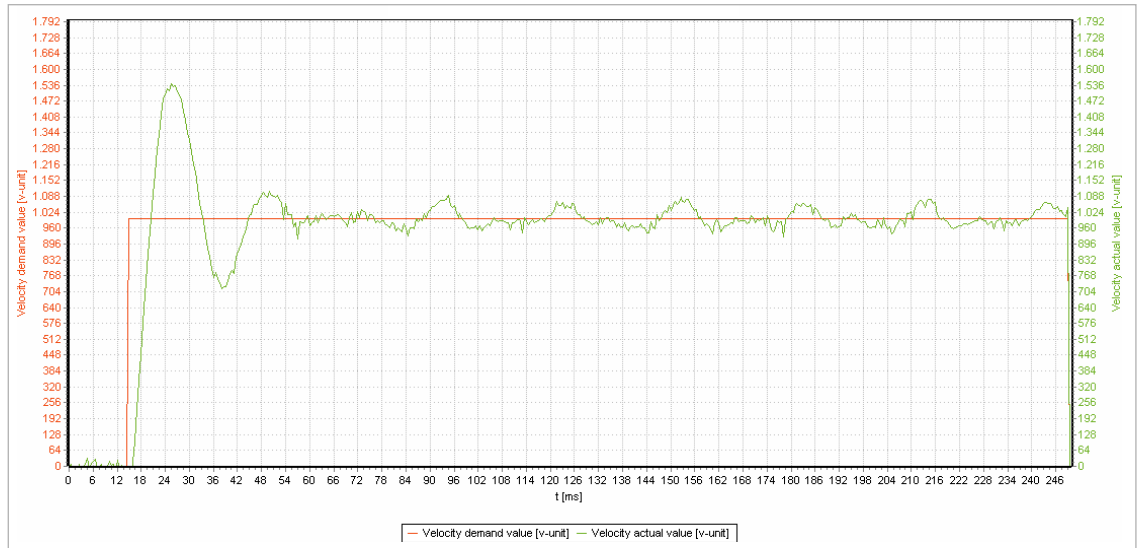
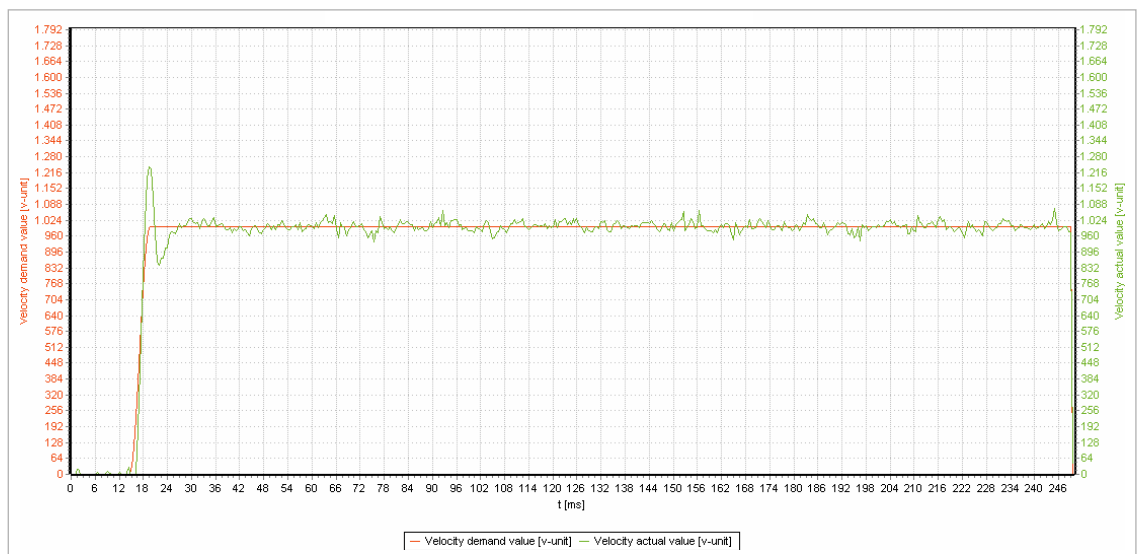

Fig. 10: Set-point jump during speed control
Fig. 11: Set-point jump during optimized speed control
**i** For manual optimization of the speed controller, apply set-point jumps to the controller and adjust the controller gain (see Fig. 10 or Fig. 11).